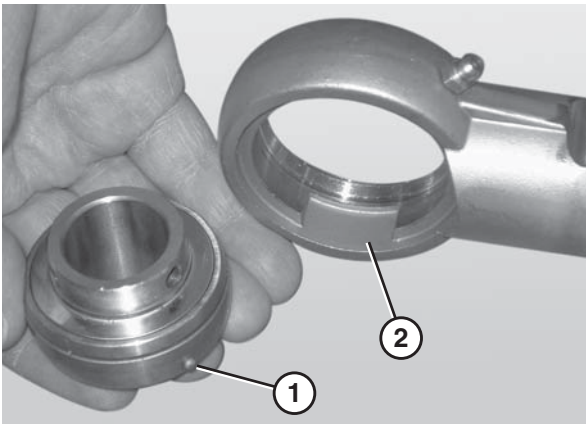

Figure 94
5. Remove the worn or damaged bearing (Figure 94).
When inserting the new bearing, make sure the anti-rotation notch (Figure 94, item 1) on the bearing lines up with the groove inside the housing (Figure 94, item 2).